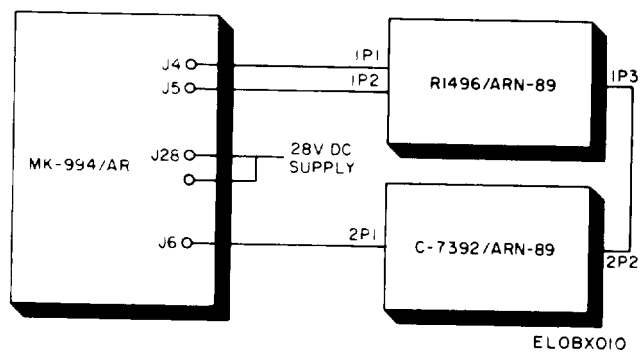

Figure 3-15. Adf facility alignment test setup.
(fig. 3-15)
a. Remove the R-1496/ARN-89 adf receiver and C-7392/ARN-89 adf control from the helicopter and connect them to the MK-994()/AR as shown in figure 3-15.